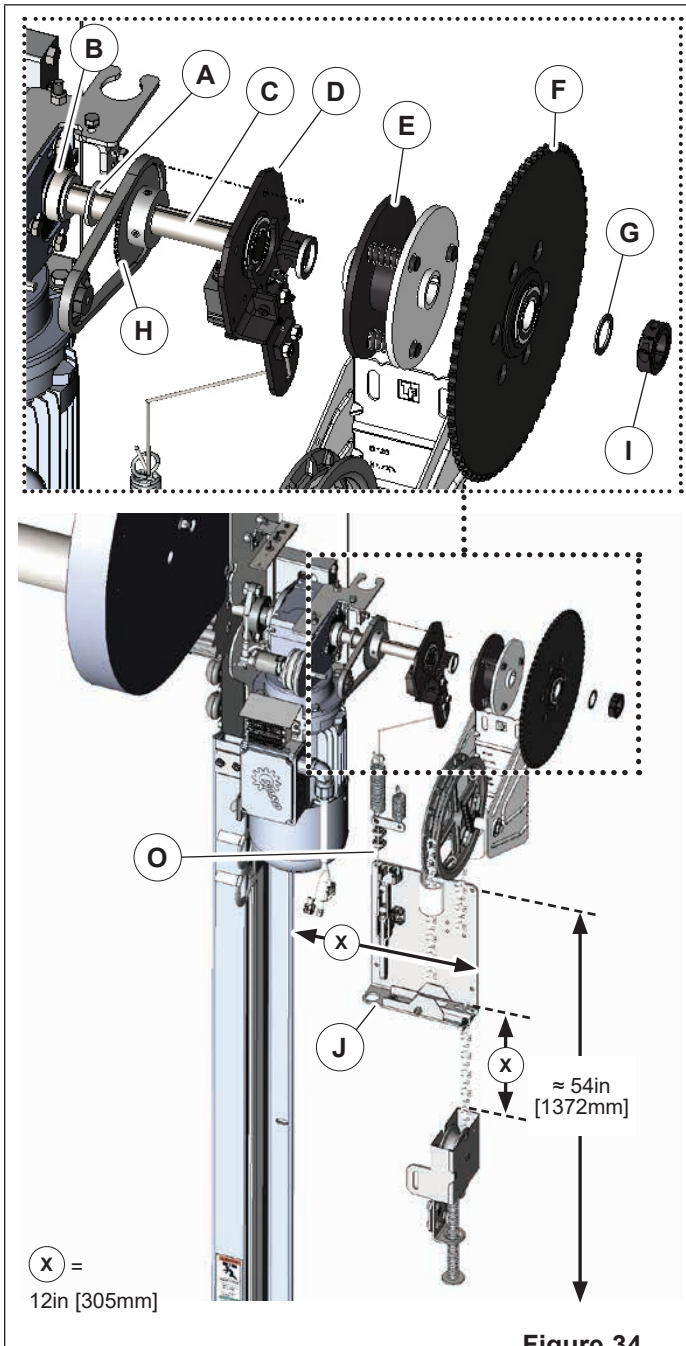
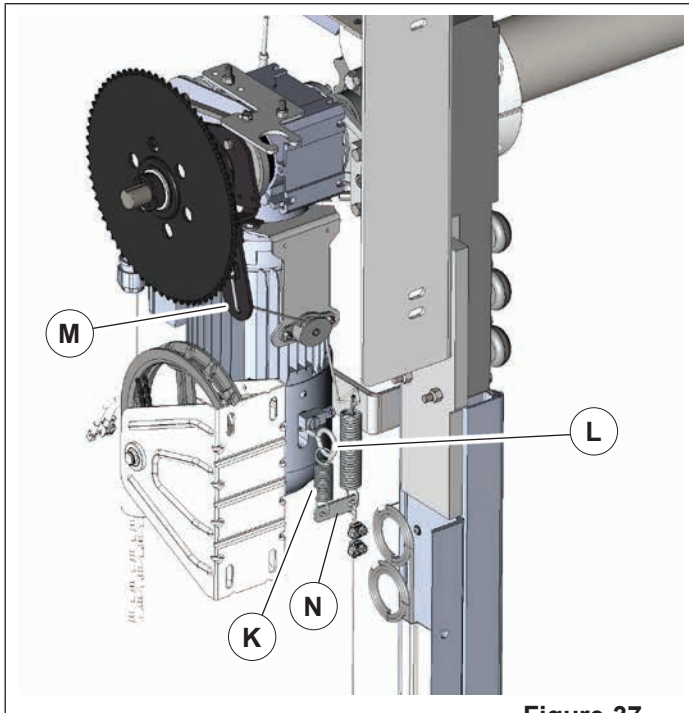

Figure 34
Figure 37
- The fault switch must be moved to the opposite side of the engagement arm bracket (D).
- Remove the hand lever/chain blocker assembly (J) and rotate to opposite side of bracket.
- Install 1/8in [3mm] spacer (A) on the outside of the lock collar (B).
- Install encoder sprocket (H) with hub pointing away from the gearbox (Figure 34).
- Install proper spacer (C) (according to door model) onto shaft next to the encoder sprocket. Spacers are shipped cable tied to the motor assembly.
9. Attach the smaller of the 2 springs (K) to the brake release eye bolt (L) (Figure 37). Smaller spring should be toward the outside.
10. Route the short cable (M) through the pulley, then through the hole in the bottom of the engagement arm bracket and clamp it behind the pressure plate. The spring plate (N) should sit level when hanging without the hand lever engaged (Figure 37).
15. Mount the hand lever/chain blocker assembly (J) at a convenient height off the floor, $\approx 54\text{in}$ [1372mm] to top of plate so the hand lever is easily accessed. Align with brake hand lever and chain hoist, $\approx 11\text{-}12\text{in}$ [305mm] from lower track to outside mounting holes. Use fasteners suitable to hold unit to the wall (**Figure 34**).
18. Route the longer cable (O) (**Figure 34**) attached to the hand lever up through the larger hole on the spring plate (N) (**Figure 37**).